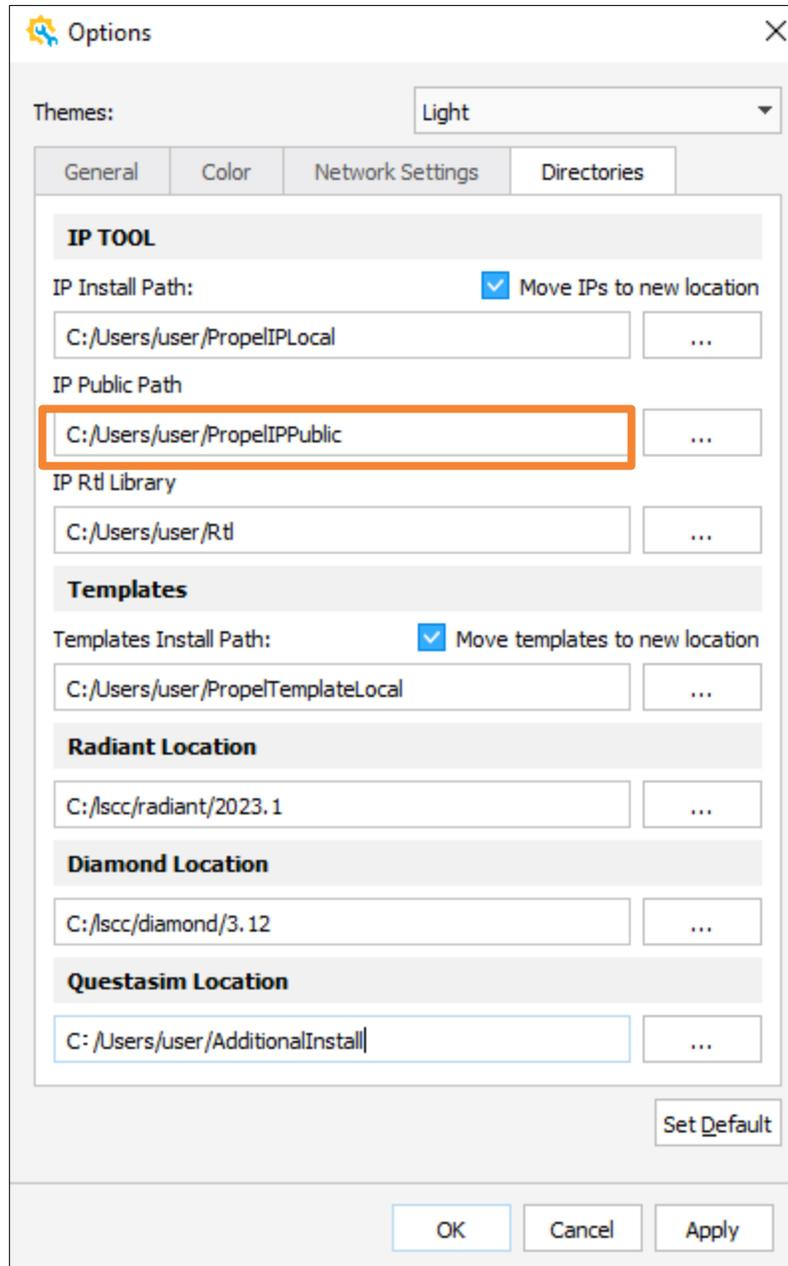

Figure 2.132. IP Public Path
- IP Public Path (Figure 2.132):